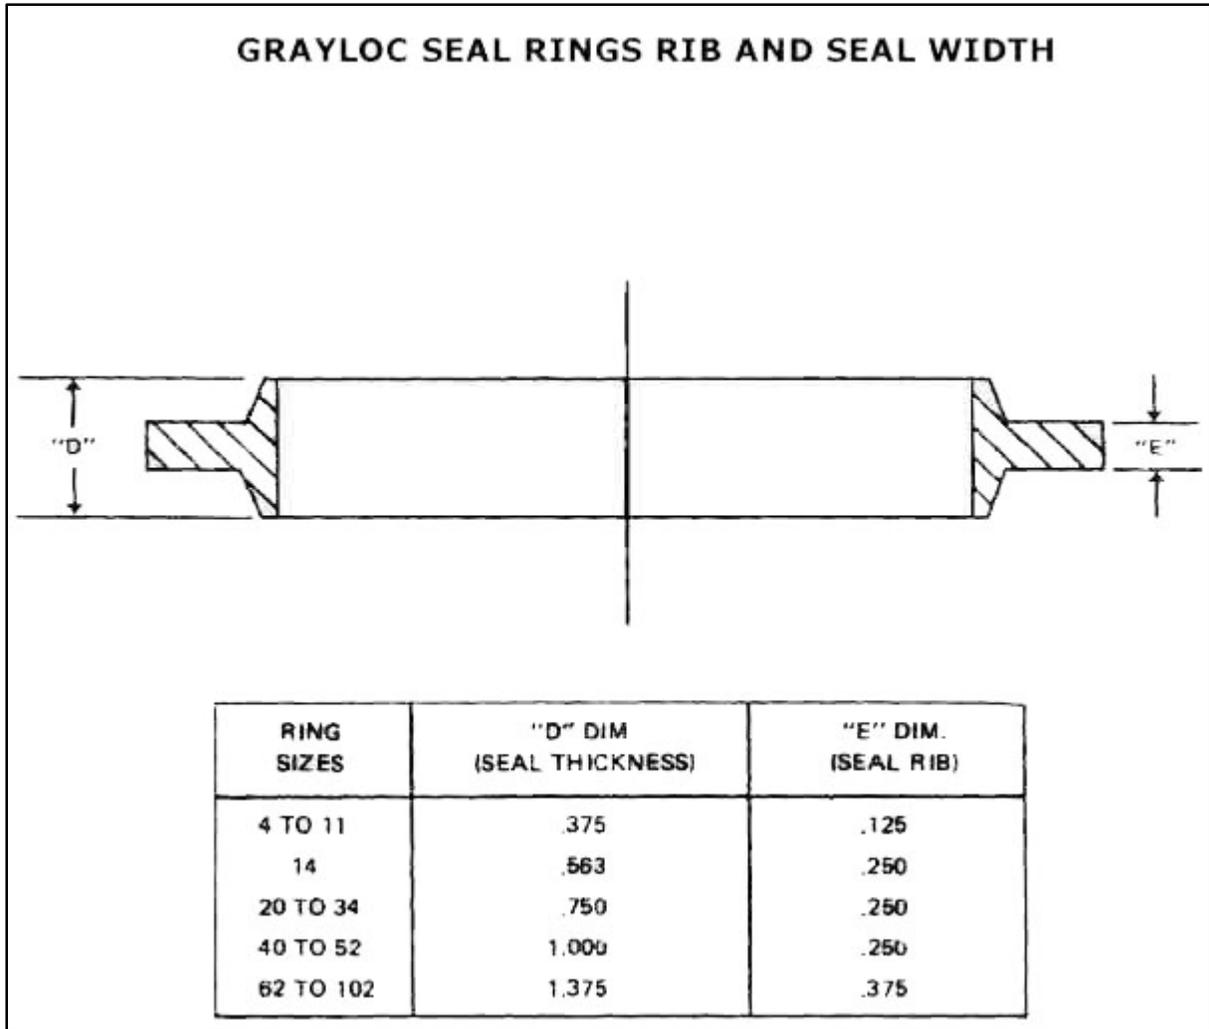

Figure 2-4. Grayloc Seal Rings Rib and Seal Width
- a. Axial – Misalignment:  $\pm .010$ " + thickness of seal rib. (See Figure 2-4.)\*
Special note should be made of the seal width (Figure 2-4). The last joint in each section must be made within the fabrication tolerances, with provisions to insert or remove the seal.
- a. Axial – Misalignment:  $\pm .010$ " + thickness of seal rib (See Figure 2-4.)